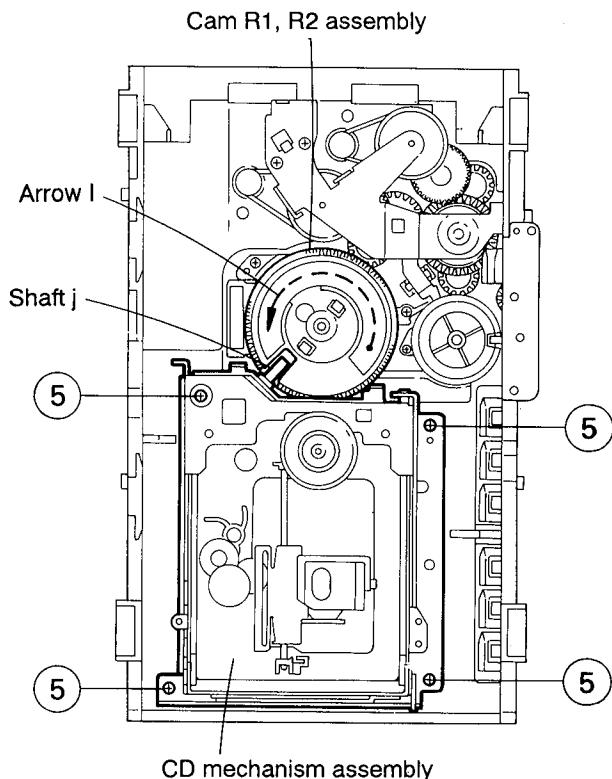

Fig. 2-16
■ Removing the CD mechanism assembly (See Fig. 2-16)
1. While turning the cams R1 and R2 assembly in the arrow direction (I), align the shaft (J) of the CD mechanism assembly to the position shown in Fig. 2-16.
2. Remove the four screws ⑤ retaining the CD mechanism assembly (See Fig. 2-16).